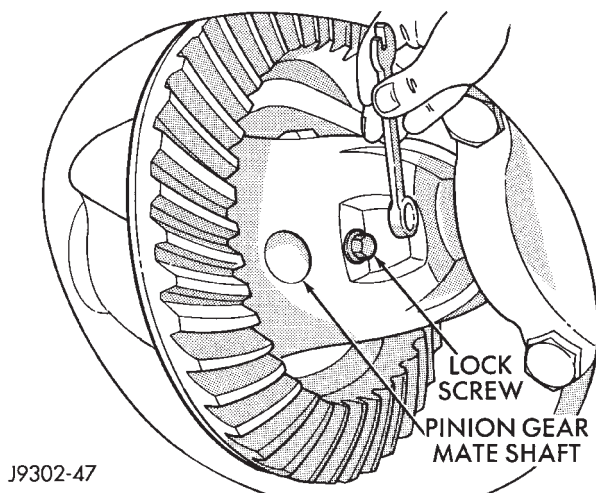

Fig. 6 Mate Shaft Lock Screw
- (1) Raise and support the vehicle.
- (2) Remove the wheels and tires.
- (3) Remove the brake drum.
- (4) Clean all the foreign material from housing cover area.
- (5) Loosen the housing cover bolts. Drain the lubricant from the housing and the axle shaft tubes. Remove the housing cover.
- (6) Rotate the differential case so that the pinion mate gear shaft lock screw is accessible. Remove the lock screw and the pinion mate gear shaft from the case (Fig. 6).